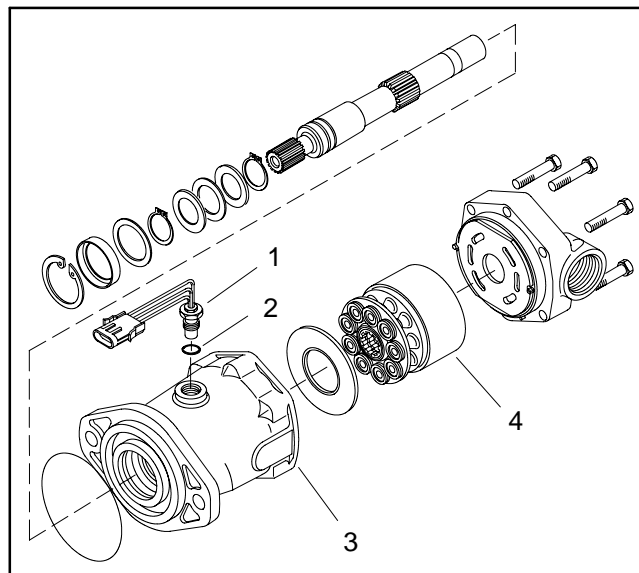

Figure 29
The traction speed sensor is attached to the right side rear wheel motor (Fig. 29). The sensor provides ground speed information for two (2) options: the Pro Control Electronics and the speedometer kit. It uses a magnetically based, Hall Effect integrated circuit. As the piston group in the wheel motor turns, the sensor accurately senses the movement of the pistons passing the sensor. The sensor red connector wire (connector terminal A) is the positive lead, the black wire (terminal C) is the ground lead and the white wire (terminal B) is the signal output.